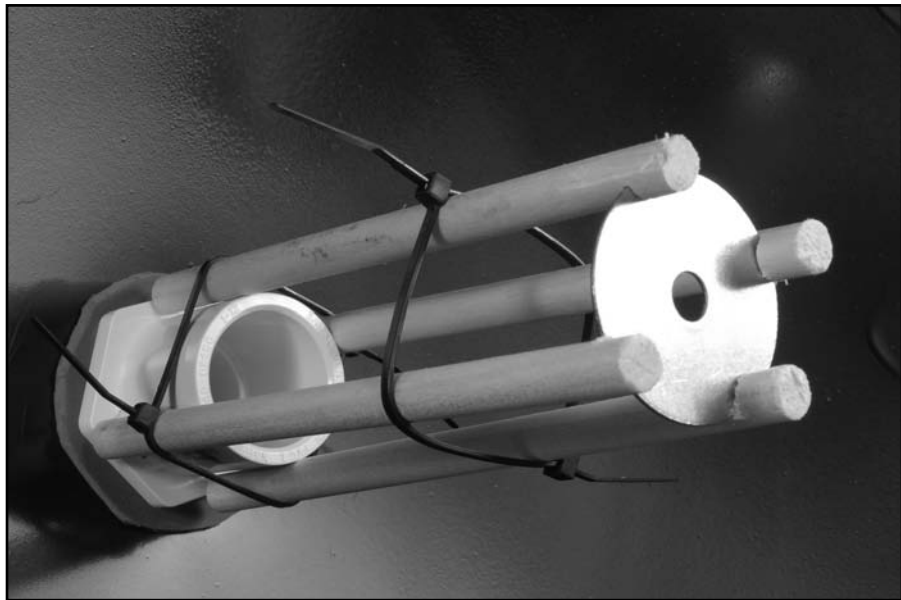

Figure 6-12:
3. Assemble the dowels and washer in the parabolic dish, as shown in Figure 6-12.